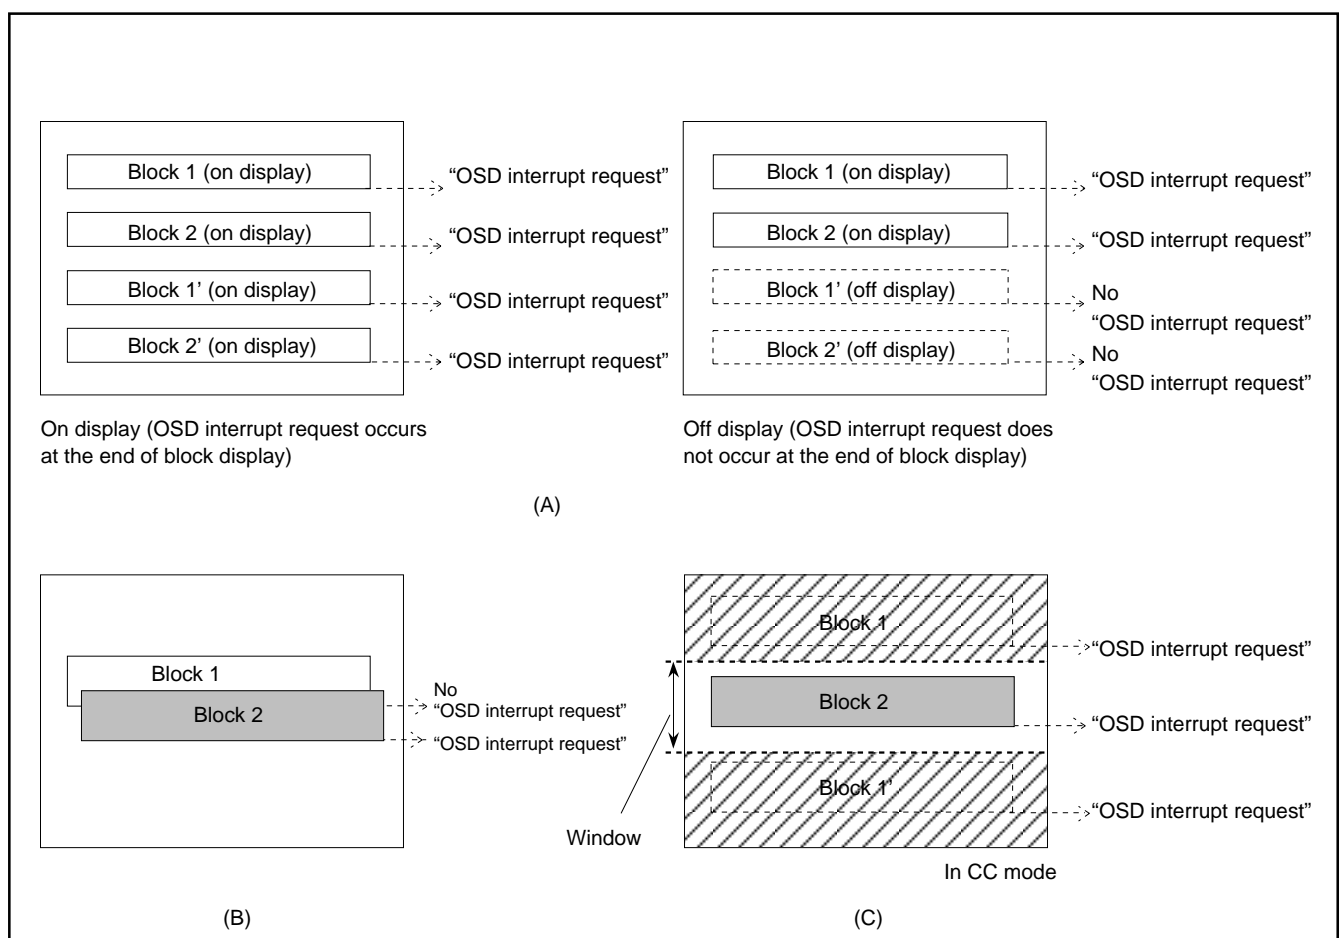

Fig. 8.11.23 Note on Occurrence of OSD Interrupt
- Notes 1:** An OSD interrupt does not occur at the end of display when the block is not displayed. In other words, if a block is set to off display by the display control bit of the block control register (addresses 00D216, 00D316), an OSD interrupt request does not occur (refer to Figure 8.11.23 (A)).
- 2:** When another block display appears while one block is displayed, an OSD interrupt request occurs only once at the end of the another block display (refer to Figure 8.11.23 (B)).
- 3:** On the screen setting window, an OSD interrupt occurs even at the end of the CC mode block (off display) out of window (refer to Figure 8.11.23 (C)).